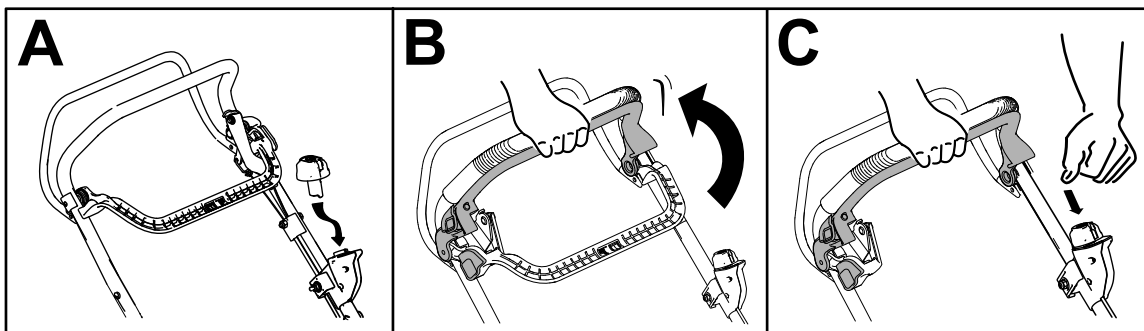

Figure 14
2. Insert the electric-start button into the electric-start switch (A of Figure 14).
3. Squeeze the blade-control bar and hold it to the handle (B of Figure 14).
4. Press the electric-start button and keep it pressed until the motor starts (C of Figure 14).